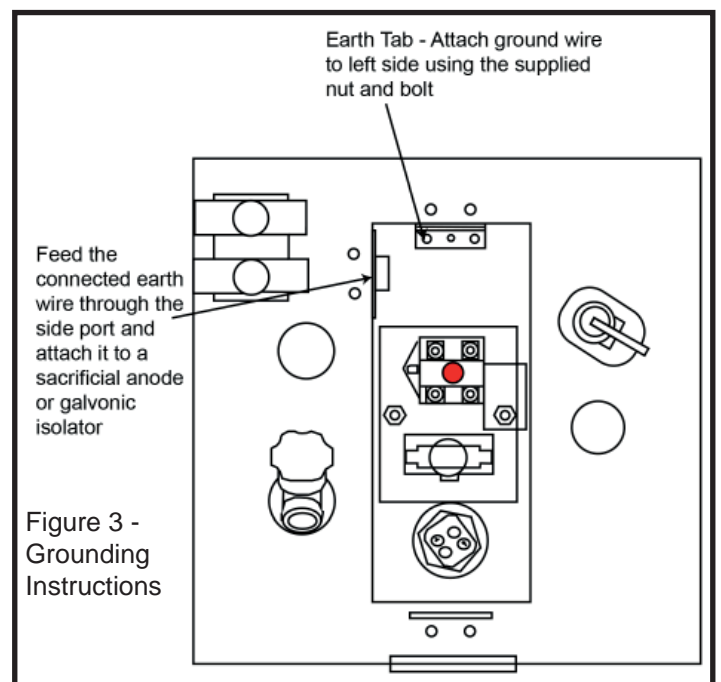

Figure 3 - Grounding Instructions
Step 1 Remove the electrical access panel to gain access to the earth tab. This is located at the top of the internal panel and labelled with the earth symbol (see figure 3).